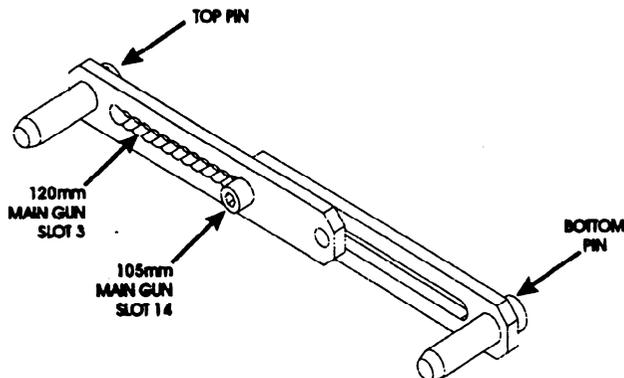

Figure 2-59. AFIST Gun Elevation Lock
2.4.7.4.6 **AFIST Gun Elevation Lock Installation.** Install the AFIST Gun elevation lock (see Figure 2-59.) as follows: